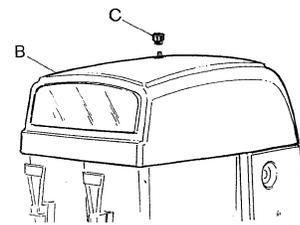

FIGURE 31
3. Unscrew the nut (C) and remove the cover (B) as shown in FIGURE 31.